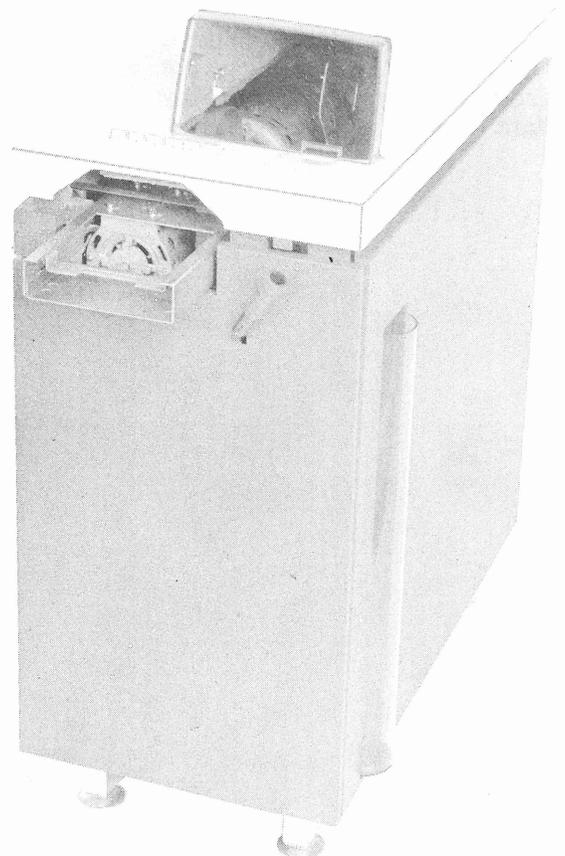

Figure 1 - Tape Cabinet
1.01 This section provides adjustment procedures for the 37 tape cabinet (Figure 1).
1.05 References made to left or right, front or rear, top or bottom, etc, apply to the cabinet in its normal operating position as viewed by the operator from the front of the cabinet (Figure 1).